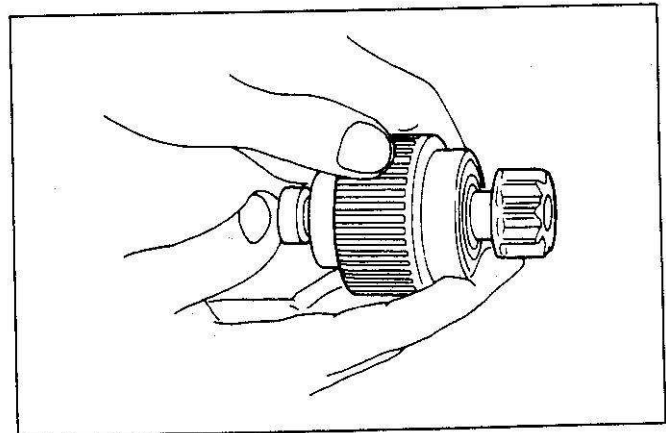

Figure 26. Inspecting Pinion Gear
Inspect (Figure 26)
- Pinion gear for badly worn or chipped teeth, or for wobble on the shaft (figure 26).